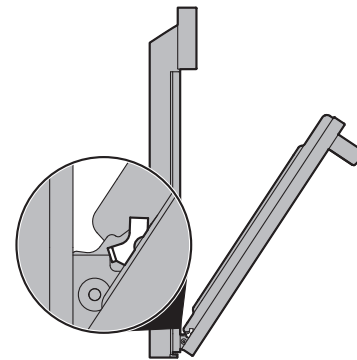

Figure 13: Removal position
| <p>Self-cleaning oven interior</p> | <p>Before setting a self-clean cycle, clean soils from the oven frame, areas outside the oven door gasket, and the small area at the front center of the oven bottom. "Figure 13: Removal position" on page 65.</p> |
3. Grasp the door by the sides, and close the door until the door frame makes contact with the unlocked hinges (Figure 13).
2. Hold the oven door at the same angle as the removal position (Figure 13). Carefully insert the hinge levers into the oven frame until you feel the hinge levers are seated into the hinge notches. The hinge arms must be fully seated into the hinge notches before the oven door can be fully opened.